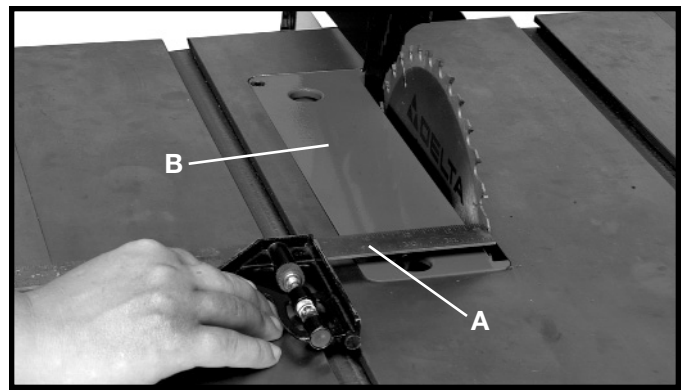

Fig. 36
1. Place a combination square (A) Fig. 36, on the table with one edge of the square in the miter gage slot, as shown, and adjust the square so the rule just touches one of the teeth on the saw blade at the forward position, as shown in Fig. 36. Lock the square in this position.
6. Tilt the blade to 45 degrees, and turn the saw blade by hand, and insure it does not contact the table insert (B) Fig. 36.